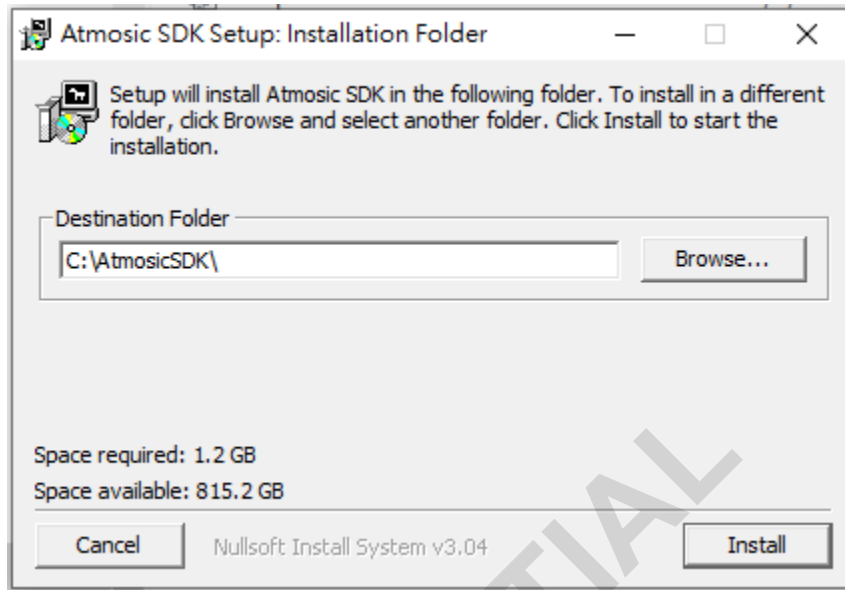

Figure 7 - SDK Setup Directory
- Figure 7 - SDK Setup Directory
The Atmosic SDK will occupy 1.2 GB disk space and be located in the “C:\AtmosicSDK\” folder. See Figure 7. Please make sure the disk space is enough before installing the Atmosic SDK. Subsequently, click the “Install” button to continue.